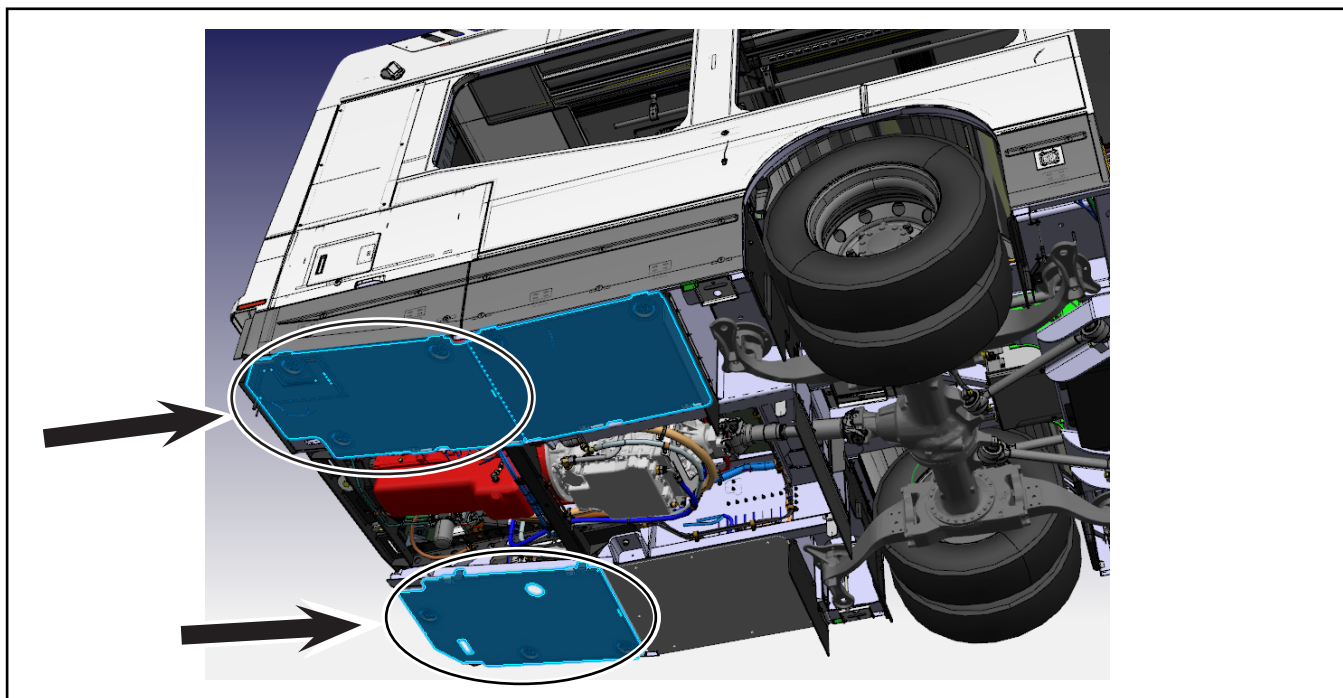

Figure 13 - Remove the Two Dust Pans
- 1.67. Remove the two dust pans circled in Figure 13.